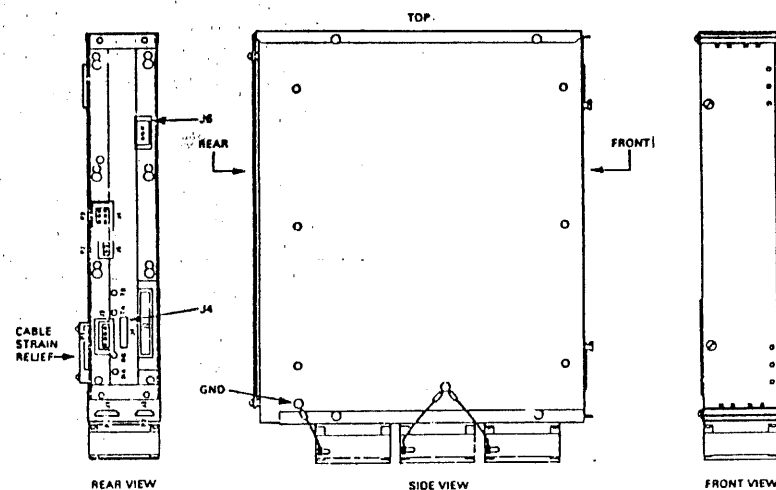
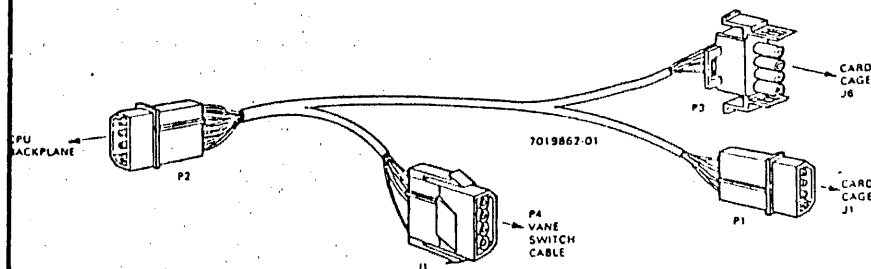

Figure 3-6. NIA20 Card Cage Views
Figure 3-11. Vane Switch Cable
To install the NIA20 card cage shown in Figure 3-6 and the internal NIA20 cable, perform the following instructions:
2. Locate the NIA20 internal cable strain relief (white) on the rear left-side of NIA20 card cage (see Figure 3-6). Because of the inaccessible location of this strain relief once the card cage is mounted, the internal cable is routed through it before installing the card cage.
6. Connect the internal NIA20 cable to the J4 connector (see Figure 3-6) on the rear of the NIA20 card cage and route the cable as shown in Figure 3-1. The cable connector engages a detent when properly seated.
8. Install the NIA20 card cage ground cable (see Figure 3-6) as follows:
3. Locate and connect P1 of the DC power cable, DEC part number 7019272-00, into connector J1 of the NIA20 card cage backplane (see Figure 3-6). Next, connect P3 of DC power cable into J2 of the NIA20 card cage.
8. Locate the vane switch cable, DEC part number 7019862-00, (see Figure 3-11). Connect P1 of the vane switch cable to connector J1 located on the NIA20 card cage (see Figure 3-6). Also, connect P3 of the vane switch cable to connector J6 of the NIA20 card cage. Use stick mounts and spiral wire wrap as needed to route and protect the vane switch cable.